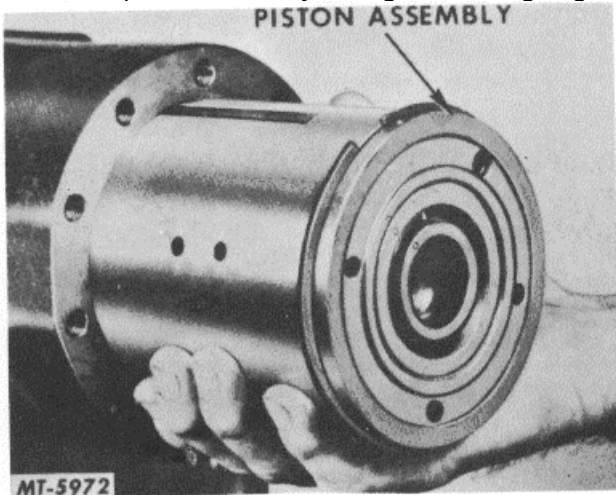

Fig. 20
17. Pull piston assembly from gear housing, Fig. 20.